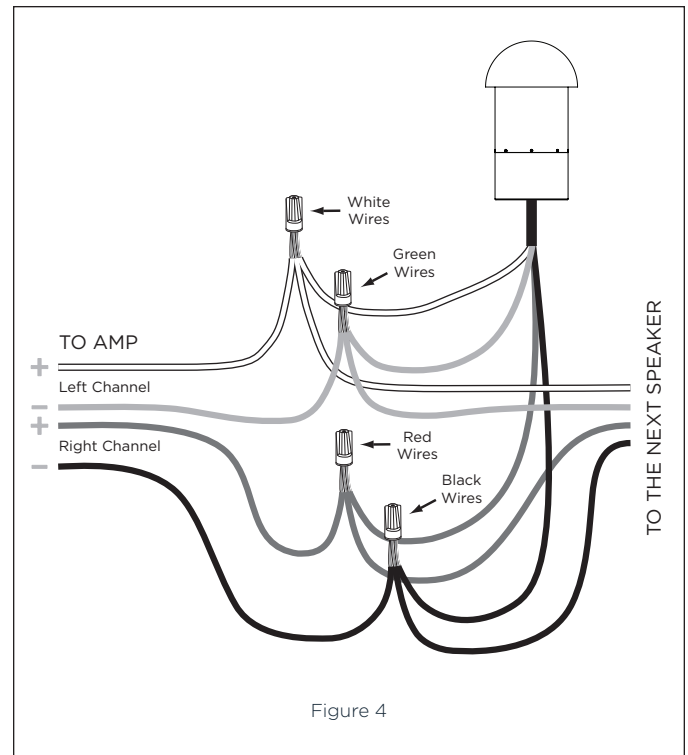

Figure 4
4. Take the spool back to the starting point and pull a second 2-conductor wire to the furthest speaker location and repeat steps 1 and 2 (see Figure 4).
The subwoofer features a dual voice coil driver with 4 wires, one pair for each of the amplifier channels. red (+) and black (-) are used for the right channel, white (+) and green (-) for the Left channel. The subwoofer can be connected at any point along the daisy chain e.g. beginning, middle, end or anywhere in-between. However, locating the subwoofer mid-way in the daisy chain will produce an equal amount of bass for the speakers on either side of the sub. The subwoofer needs to be connected in the same manner as the satellites speakers (see figure 4).